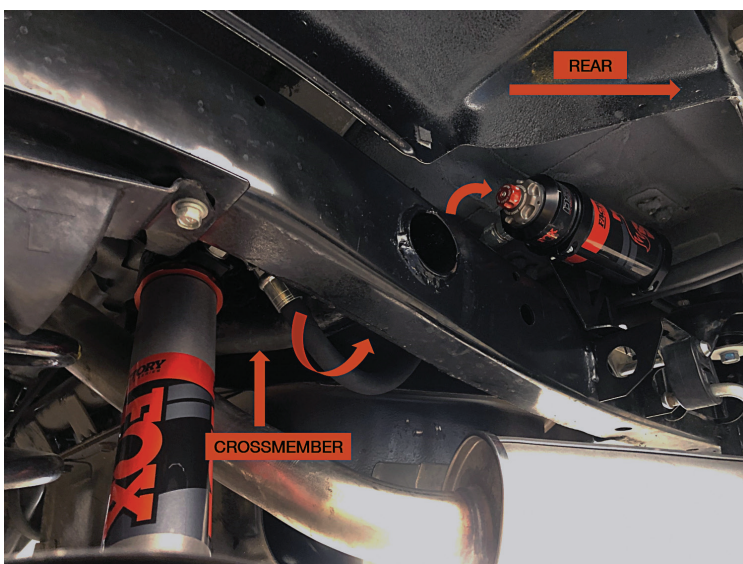

Figure 13: Left rear reservoir hose routing
9. Using two supplied billet clamps and bolts per shock, mount the reservoir to the bracket. Utilize the slots in the bracket to locate the clamps. Do not feed the clamps through the slots in the brackets. Torque the (4) four socket head cap screws to 19 in-lbs.
- a. For left side shocks: route the reservoir and hose below the chassis frame cross member and up inwards from the chassis frame rail onto the reservoir bracket (Figure 13).